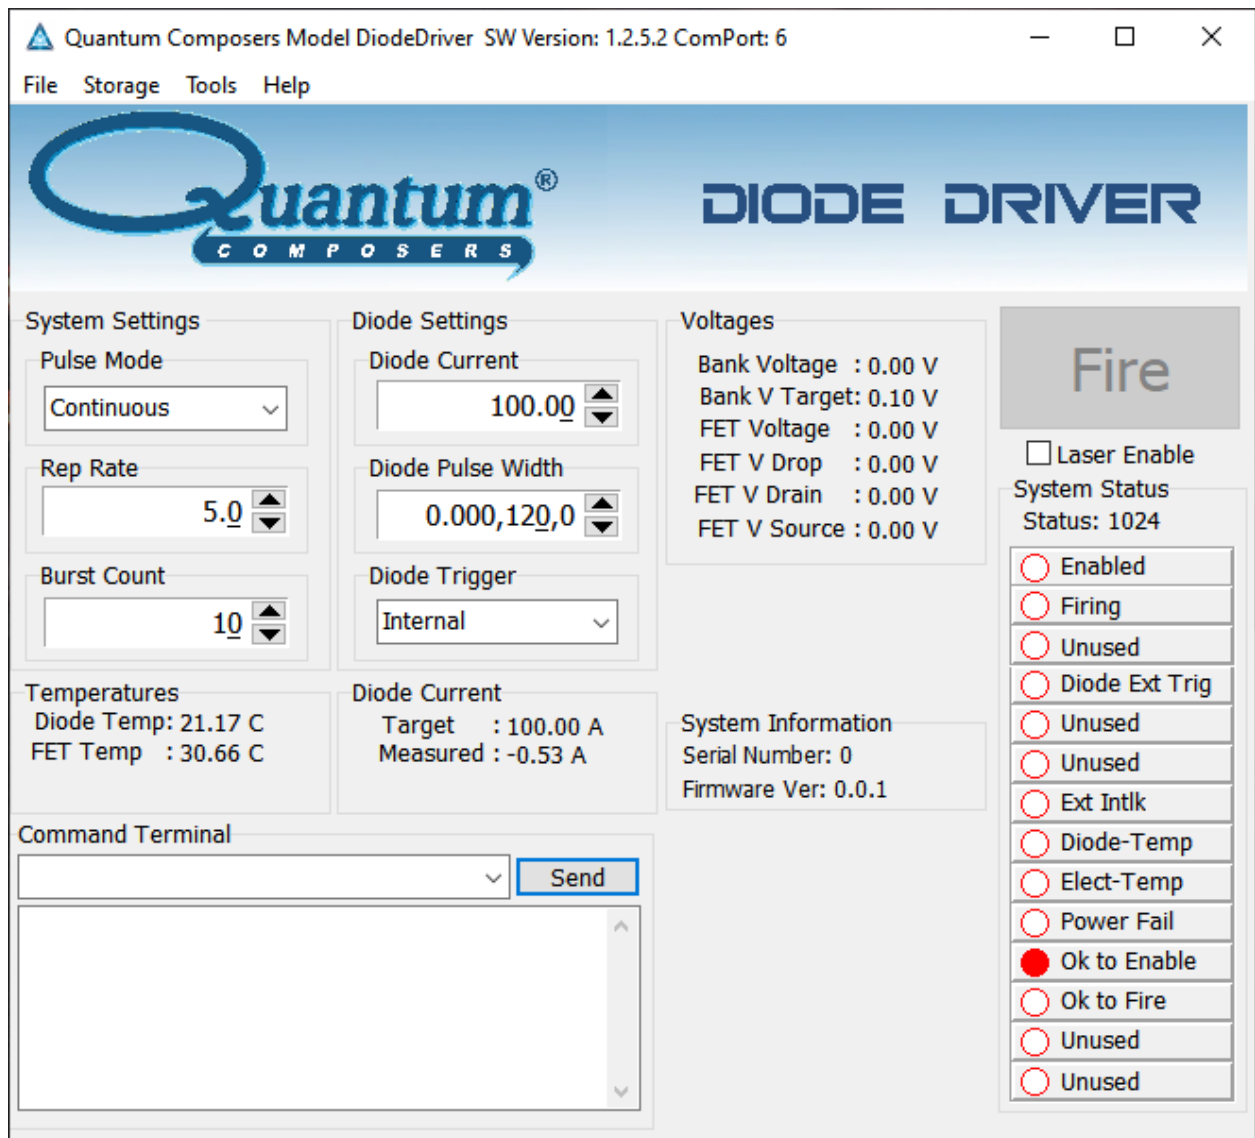

Figure 6: Diode Driver Software Application Main Window
- The Diode Driver application will be displayed as shown in Figure 6.